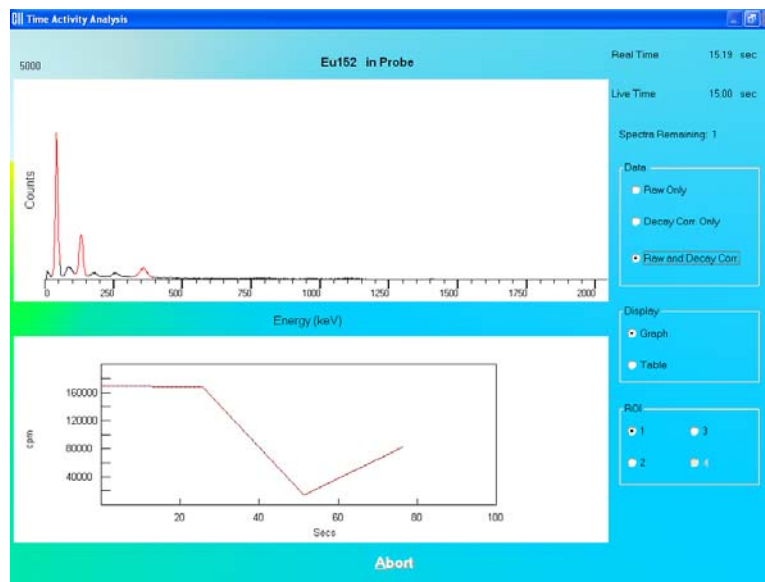

Figure 12-7
- Place the isotope source in the designated detector and click the **OK** button. As counting progresses, Real Time and Live Time for each repetition is displayed in the upper right of the screen as shown in Figure 12-7. The number of measurement repetitions (spectra) remaining is displayed below the Live time.